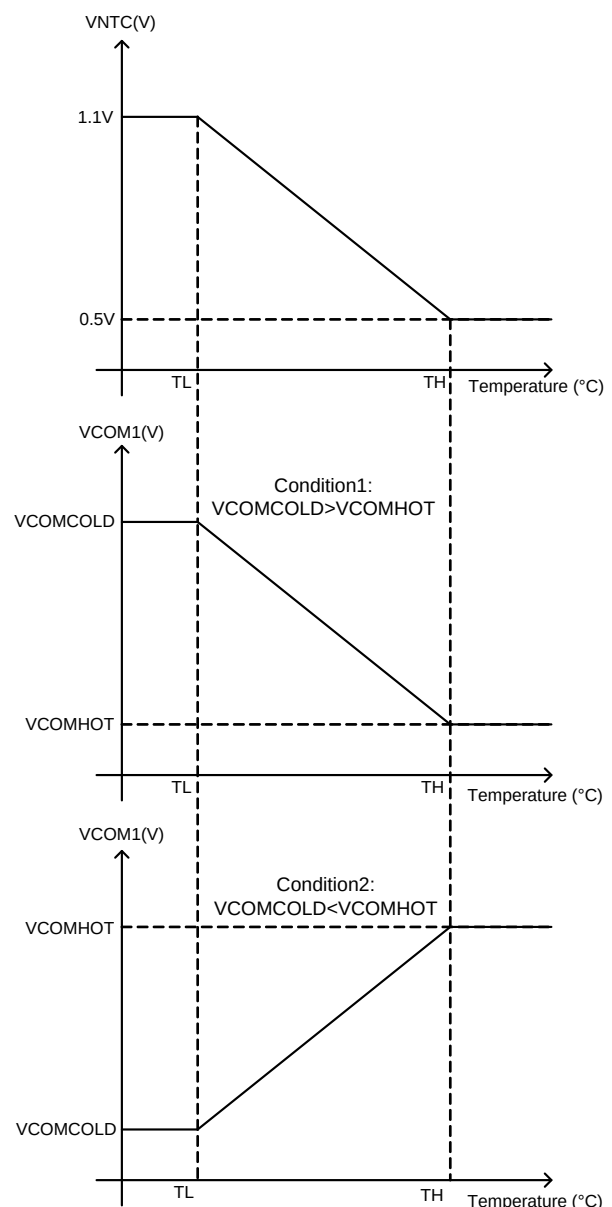

Figure 2. VCOM1 Temperature Compensation Curve
The VCOMHOT voltage is set VCOM1 output voltage at TH, and VCOMCOLD voltage is set VCOM1 output voltage at TL. The VCOM1 can be temperature compensated, allowing its output voltage to transition from VCOMCOLD voltage (TL) to VCOMHOT voltage (TH). The G2518 support two kinds of compensation curve. One is the VCOMCOLD output voltage larger than VCOMHOT output voltage, another is VCOMCOLD voltage smaller than VCOMHOT voltage. Temperature compensation curve is shown in Figure 2.